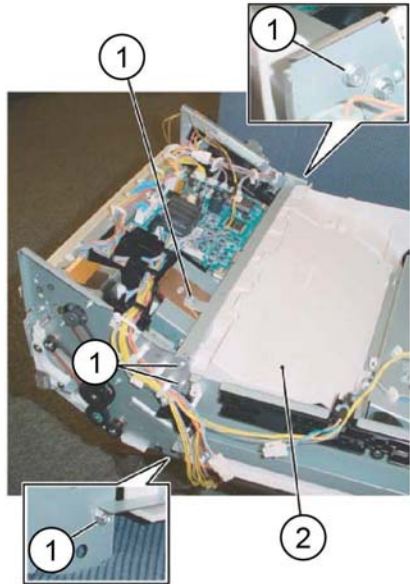

Figure 4 Stacker tray assembly removal
10. Remove the stacker tray assembly, Figure 4:
- a. Remove five screws (1).
- b. Remove the stacker tray assembly (2).